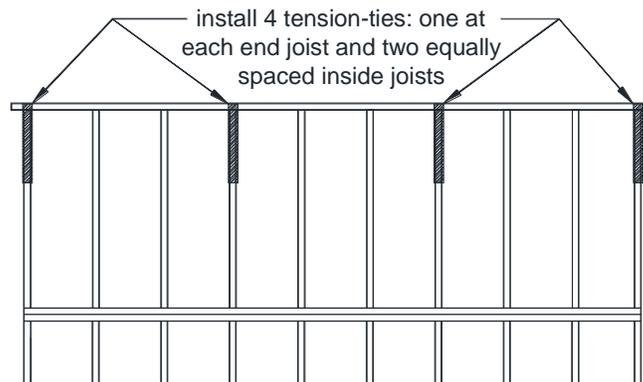

FIGURE 27: METHOD 1 - TENSION TIE LOCATIONS
- Install one tension-tie at each end joist and install the remaining two to inside joists equally spaced along the width of the deck as shown in FIGURE 27. A set of tension-ties shall be installed for each structurally independent section of deck.